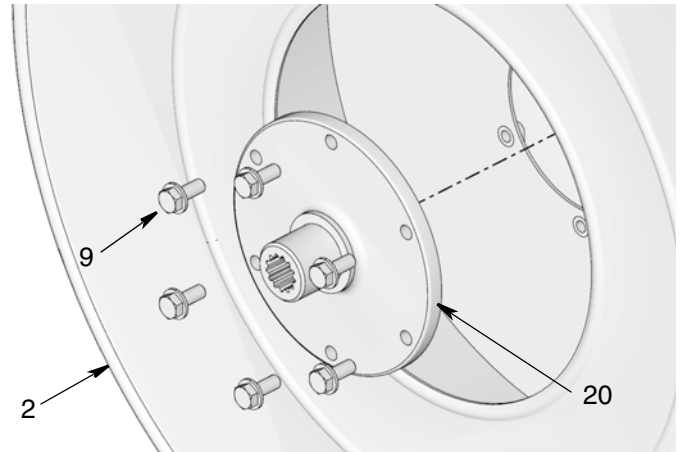

FIG. 34
3. Install shaft (20) to spool (2) using bolts (9) (FIG. 34). Wrench tighten bolts. Then torque to 25 to 35 ft. lbs (33.9 to 47.45 N.m).